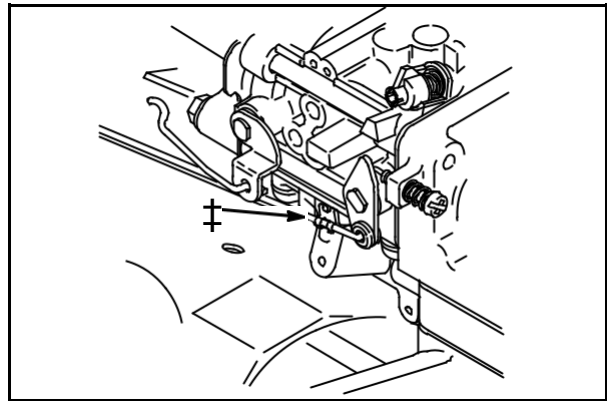

Fig. 18
Unhook governor link spring (7) from throttle lever. Disconnect governor link, **Fig. 18**.